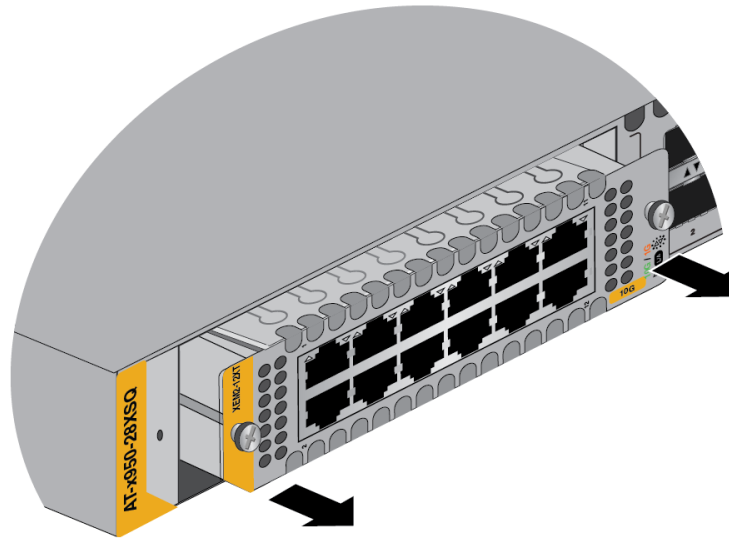

Figure 138. Disconnecting an Ethernet Line Card from the Switch
5. Carefully pull on the screws on the faceplate to disconnect the line card from the internal connector in the switch. Refer to Figure 138 on page 244.